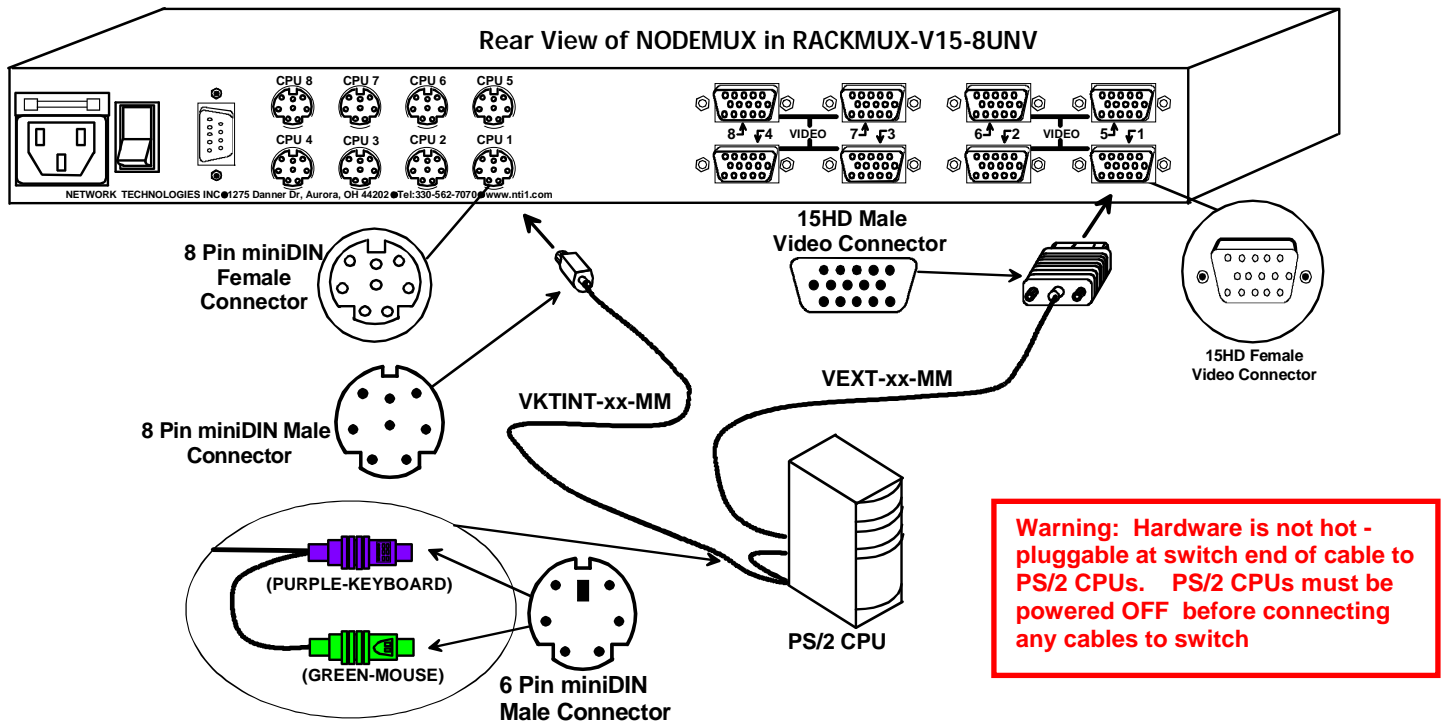

Figure 2- Connect a PS/2 CPU
2. Connect the appropriate NTI keyboard cable (see the chart below) from the input devices port (keyboard/mouse) of a CPU to a CPUx port of the NODEMUX. Note the port's number. (See Figs. 2 and 3.)
3. Connect a VEXT-xx-MM video cable and video adapter, if needed (see the chart below), from the video port of the same CPU to the VIDEOx port of the NODEMUX with the same port number as the keyboard (see Figs. 2 and 3).
•**PS/2 CPU-** Connect a PS/2 CPU video port using a VEXT-xx-MM cable between a VIDEOx port on the NODEMUX and the CPU. Connect the PS/2 CPU keyboard and mouse ports using a VKTINT-xx-MM cable between a CPUx port on the NODEMUX and the CPU. (See Fig.2.)